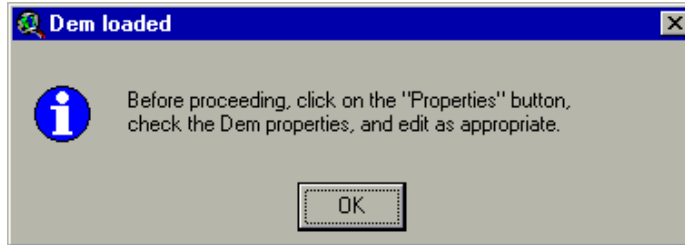

Figure 15.12
6. A prompt box will appear reminding the user to verify DEM properties (Figure 15.12).